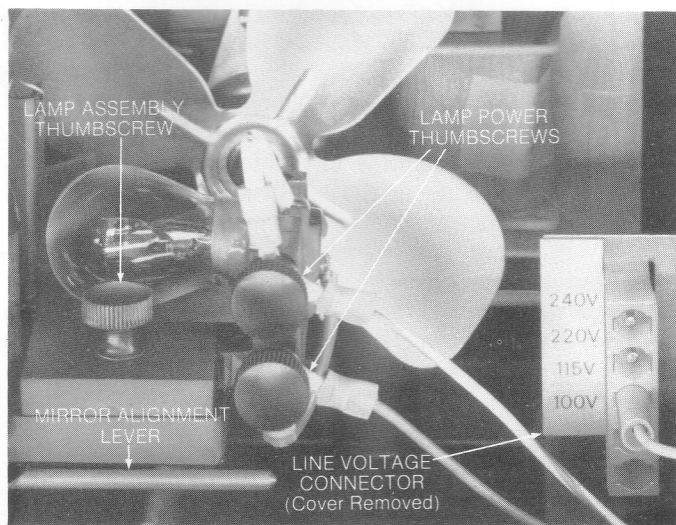

Figure 5. Interior of Lamp Compartment
- Referring to Figure 5, locate the line voltage connector. Note that the lowest socket position is a blank and is not used. Remove the plug with a firm pull and push fully onto the socket pin corresponding to your line voltage.
the lamp filament image on the entrance slit using the mirror alignment lever (shown in Figure 5).
- b. Use the mirror alignment lever (shown in Figure 5) to swing the mirror surface toward the door.
The tungsten lamp assembly, cat. no. 33-33-23, has a nominal life rating of 400 hours minimum. Because of the instrument's sensitivity and the lamp position employed, the usable lamp output will remain almost constant over its life span. It is recommended that a spare lamp assembly be kept available. The prealigned assembly can be quickly replaced by referring to Figure 5 and using the following procedure: